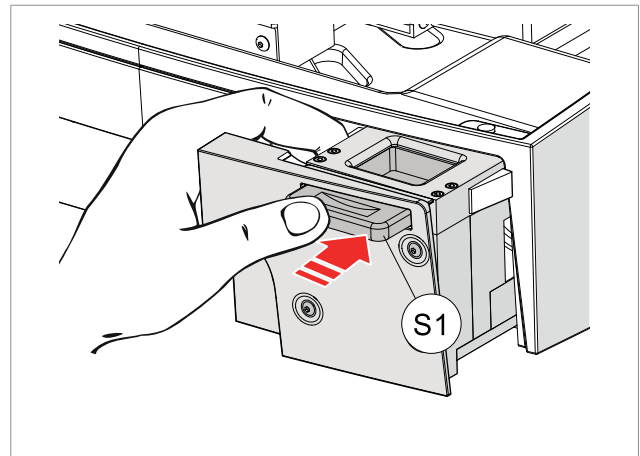

Fig. 60
- 1) Pull the photo reader unit (S) out all the way.
- 2) Hold the unit firmly with one hand and push the handle (S1) (Fig. 60).